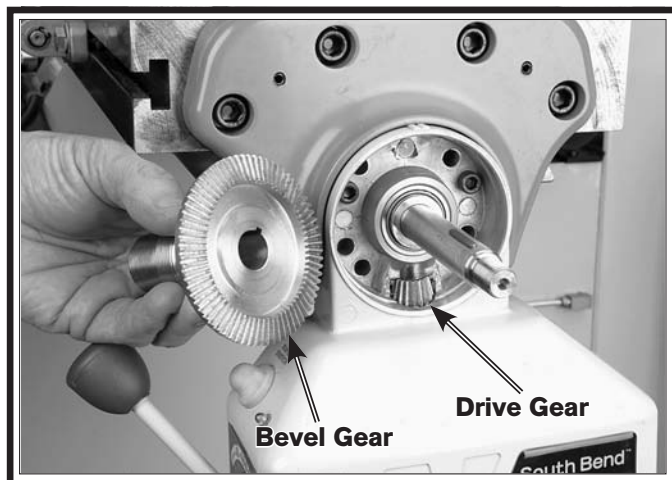

Figure 57. Power feed brass gear and drive gear.
5. Brush a light coat of lubricant on the bevel gear teeth and the smaller drive gear (see **Figure 57**).